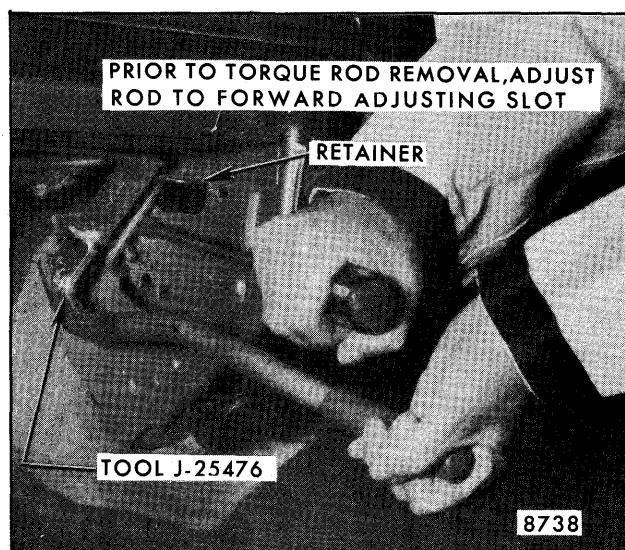
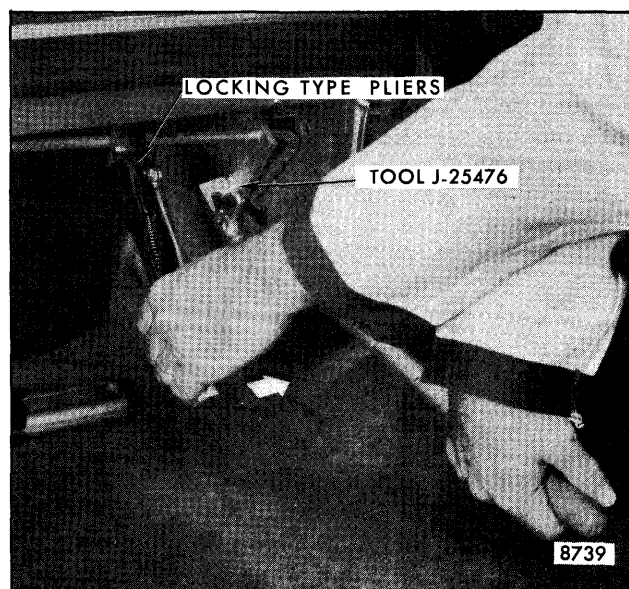

Fig. 7-10-Torque Rod Tool Engagement
Fig. 7-11-Torque Rod Tool Removal
3. To remove torque rods, install torque rod removing and adjusting tool onto torque rod and adjust rod to forward most adjusting slot (Fig. 7-10). Using a flat-bladed tool, disengage end of rod from adjusting slot and from retainer and allow rod to unwind while holding onto adjusting tool (Fig. 7-10). To disengage tool J-25476 or equivalent from the torque rod, it will be necessary to install a pair of locking-type pliers on the rod and lift upwards on the pliers (Fig. 7-11).
5. To install, engage adjusting end of torque rod into forward adjusting slot and fixed end into hinge arm at opposite side. Clamp locking-type pliers on rod, Figure 7-11.